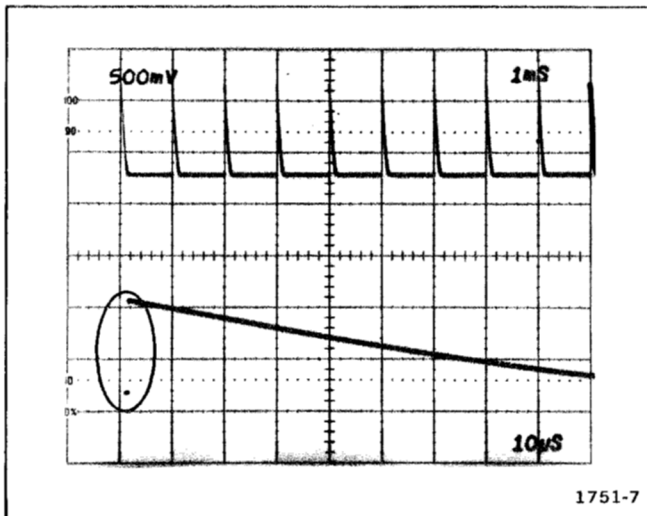

Fig.5-13. Correct DTM Scale and Delay Start adjustment (circle).
- c. Position the first time-mark to the second vertical graticule line, using the POSITION control. See Fig. 5-13 for reference.
- d. Adjust—DTMScale, R495, to start rising portion of tenth time-mark so Delayed (bottom) sweep display coincides with second vertical graticule line. See Fig. 5-13 for reference.
- f. Adjust—Delay Start, R425, to start rising portion of second time-mark so Delayed (bottom) sweep display coincides with second vertical graticule line. See Fig. 5-13 for reference.